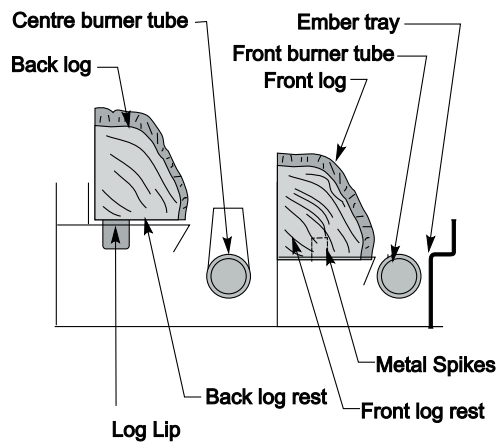

Figure 29. Positioning for the front and back logs.
Install the trim by placing the top edge of the trim over to the retainer clips on either side of the fireplace. Push the bottom edge firmly inwards and the trim will snap on. (See figure 29) Install the upper trim pieces so that the baffle is resting between the top and middle piece, as shown below.
2. Place the Back log onto the back log rest as shown below in **figure 29**. The log has lip on the bottom which fits into the slot on the log rest.
3. Place the Front log onto the front log rest as shown in **figure 29**. Center the log from side to side, and push it against the back of the log rest. Carefully push the log onto the metal spikes on the log rest.